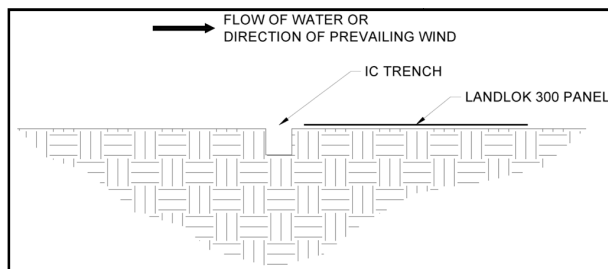
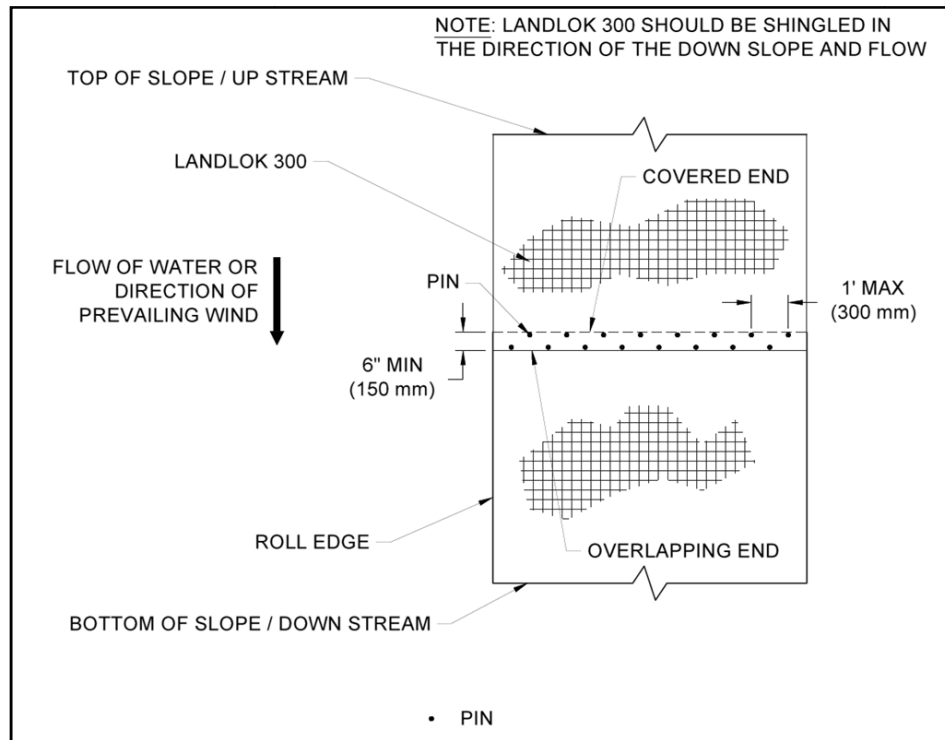

Figure 4: Initial Channel (IC) Trench Alignment
Figure 14: Roll End Overlap
2. Place the Landlok 300 panels by laying the Landlok 300 rolls on the downstream side of the IC trench so that the roll end points towards the IC trench (Figure 4), with a 3 inch (75 mm) overlap created at adjacent panel edge locations. Ensure that adjacent panel edges maintain a minimum 3 inch (75 mm) overlap during Landlok 300 laydown. (Figure 14).
- Roll edges shall be overlapped a minimum of 3 in (75 mm) with pins placed on 12 in (300 mm) centers (Figure 14).
- Roll ends shall be overlapped a minimum of 6 in (150 mm) with upstream panel on top. Secure roll end overlaps with two rows of pins staggered 6 in (150 mm) apart on 12 in (300 mm) (Figure 14)